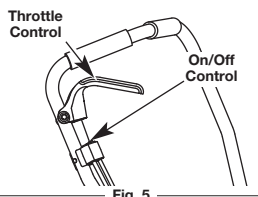

Fig. 5
**NOTE:** There is no need to turn the unit on. The On/Off Control is in the **ON (I)** position at all times (Fig. 5).
2. Press and hold the On/Off Control in the **OFF (O)** position until the unit comes to a complete stop. (Fig. 5)